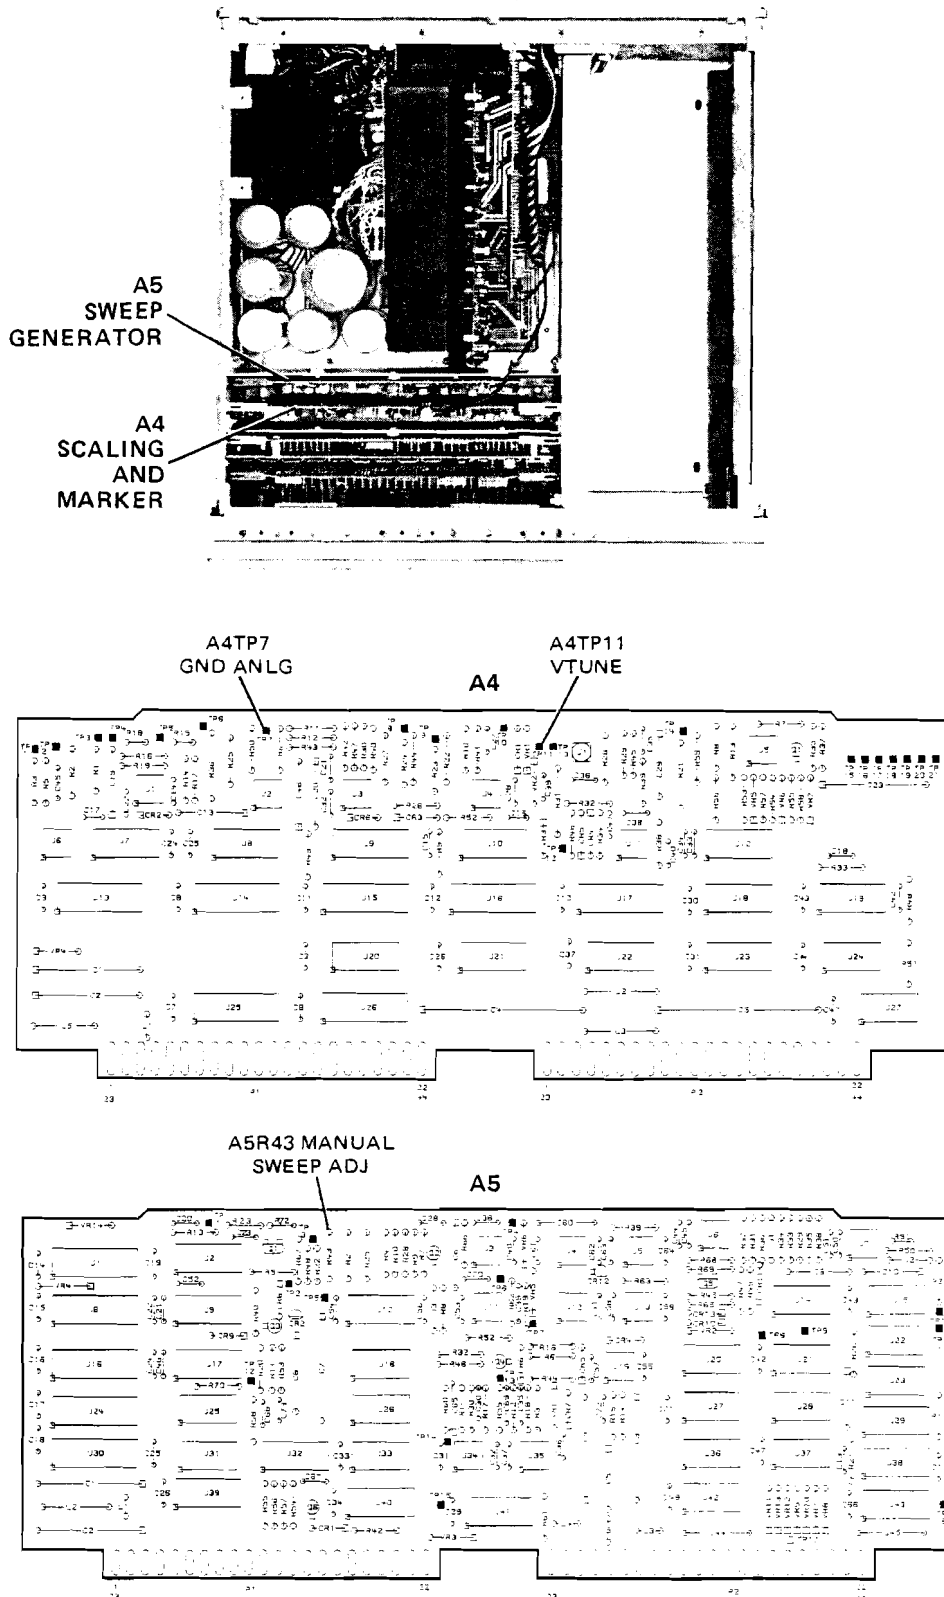

Figure 5-11. Location of Manual Sweep Adjustment.
8. Adjust A5R43 MANUAL adjust until the voltage clamps at the upper limit. The adjustment is correctly set at the point just when the voltage clamps at the maximum level (typically about +10 Vdc). Refer to Figure 5-11 for location of manual sweep adjustment.